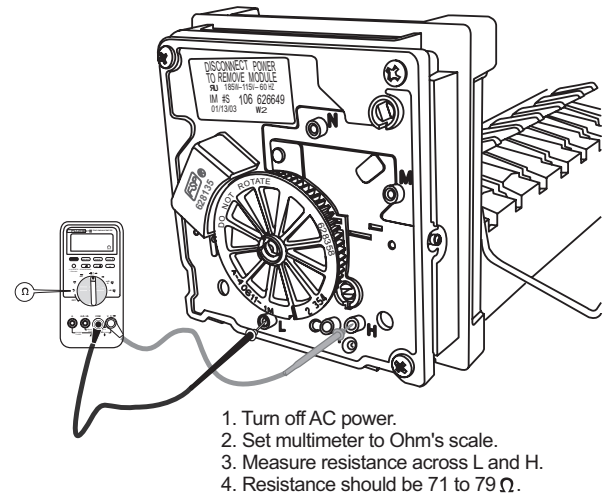

Figure 57. Checking mold heater resistance
- Set multimeter to Ohm scale, then connect probes to test points L and H. Test probe tips must be 1/2 inch long to make full contact with internal terminals. See Figure 57.